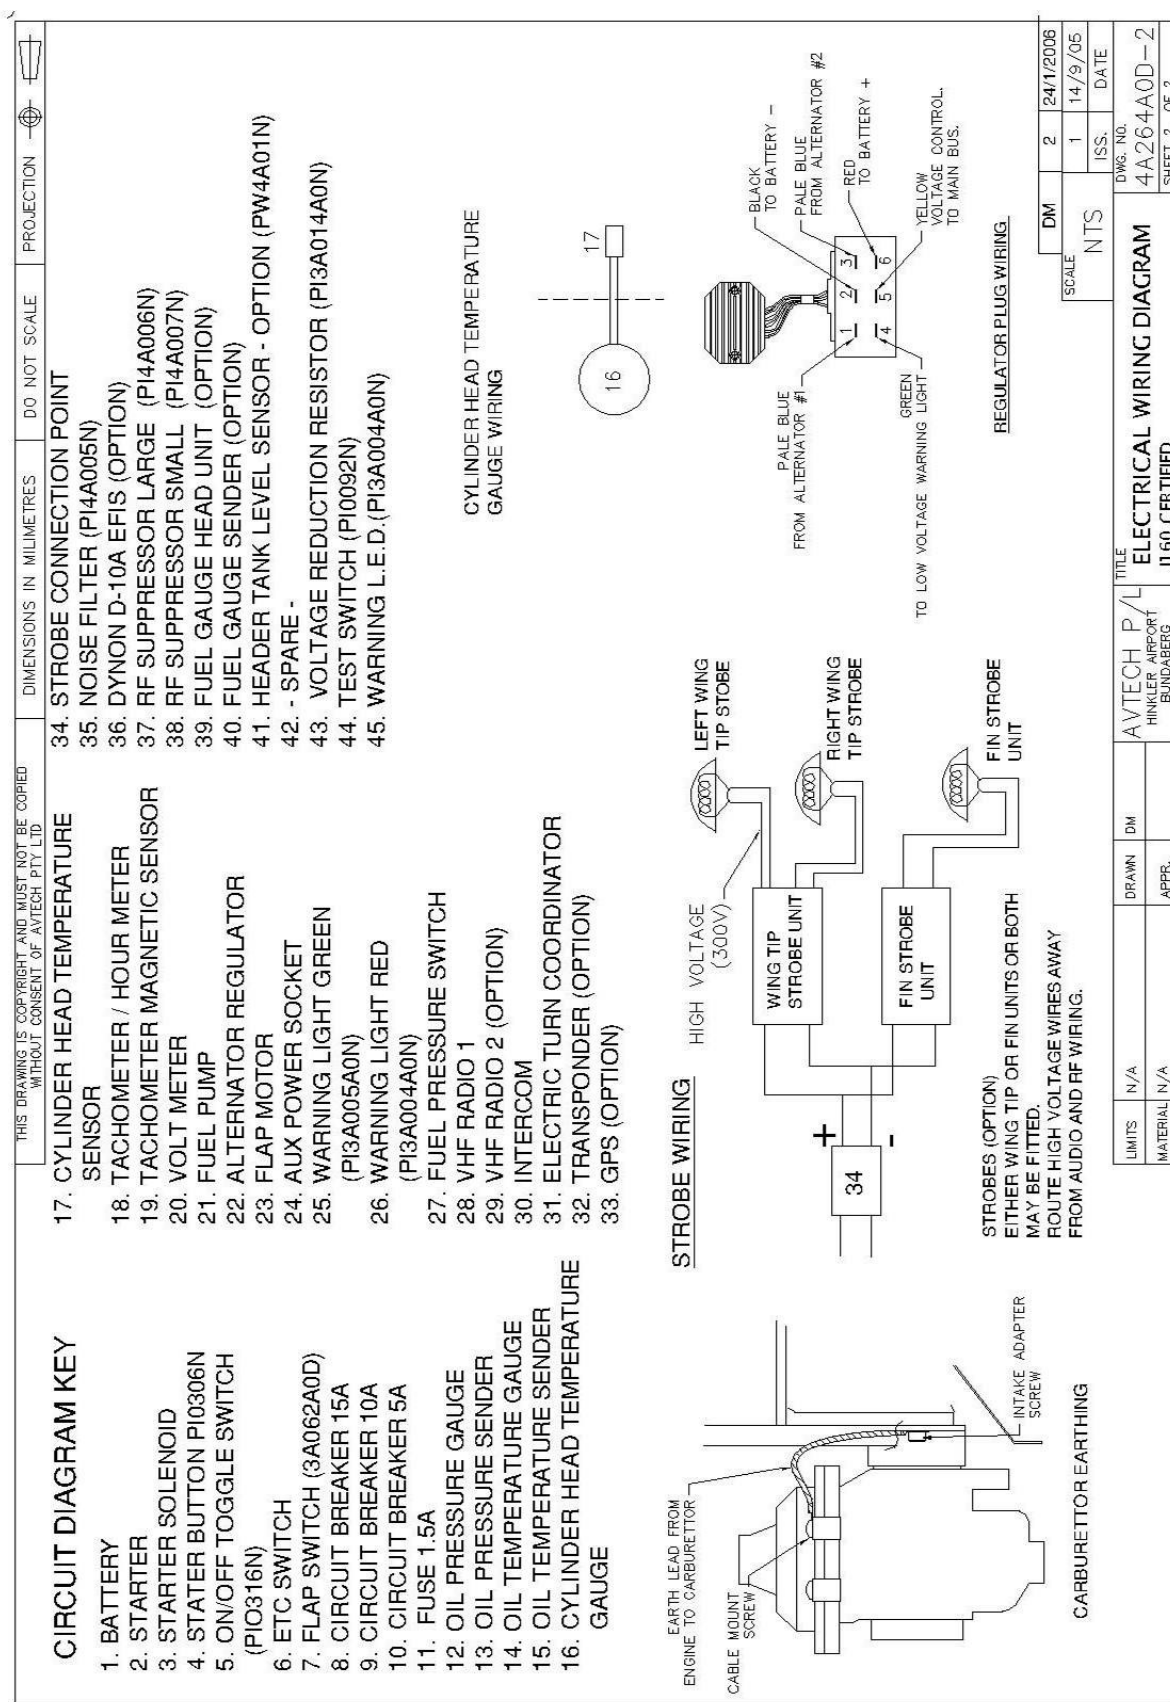

Figure 27. Wiring Diagram Key
- Cables passing through the firewall (such as throttle cables, choke, carburettor heat and cabin heat cables) can transmit RF noise back into the cabin. This can be minimised by earthing the cables at ONE end. On the Jabiru Engine an earth wire (Shown in Figure 27) is provided connecting the carburettor to the rest of the engine, so the throttle and choke cables are connected to earth through this wire.